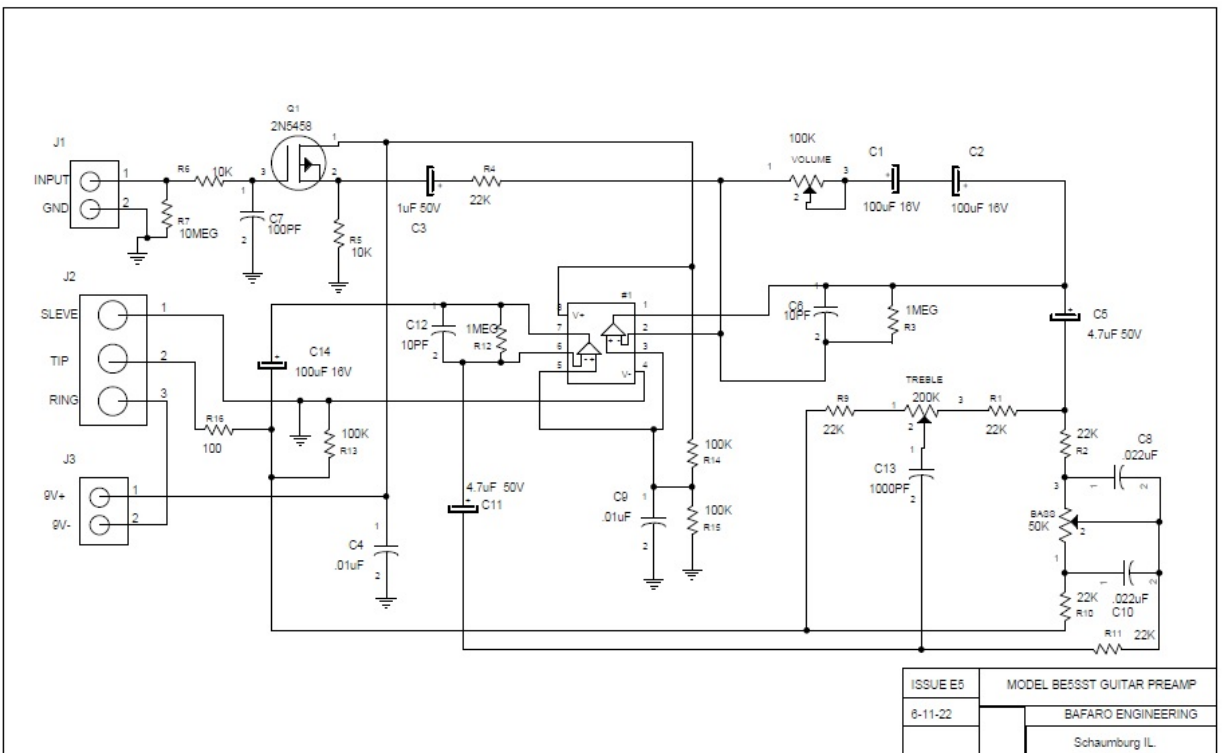

Figure 2.
**Theory of Operation:** The schematic of the preamp is shown in Figure 2.